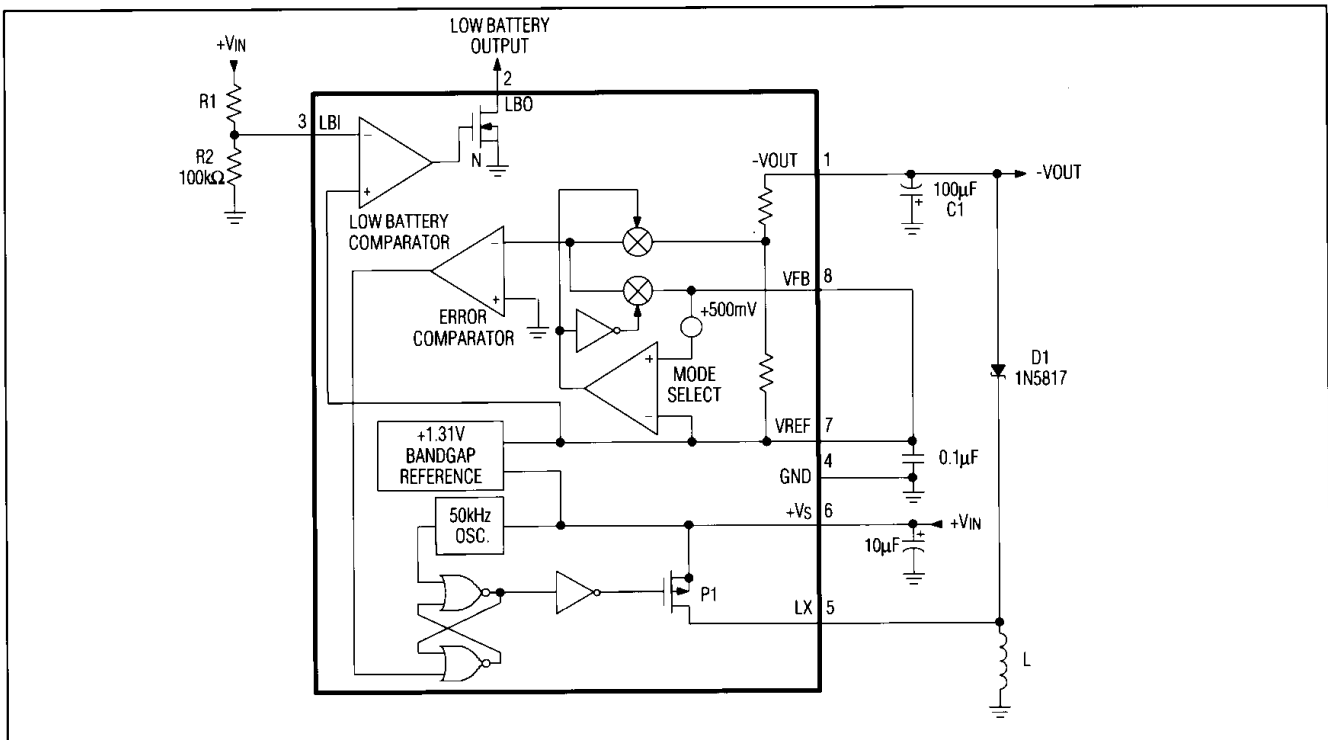

Figure 2. MAX635/636/637 Block Diagram and Typical Circuit (Table 2)
| 1   | -VOUT | The sense INPUT for fixed output operation, -VOUT, is internally connected to the on-chip voltage divider. Although it is connected to the output of the DC-DC converter (Figure 2), VOUT does not supply current, LX does. |
Figure 2 shows the standard circuit for converting a positive voltage into a negative one. When the output becomes more positive than the preset level, the Error Comparator switches low, and the MOSFET at LX is toggled on and off at the clock frequency. During the low-going period of the oscillator, P1 is on, and current is delivered to the external inductor through the LX pin.
Table 1 lists some coil manufacturers and typical part numbers. Table 2 shows nominal inductor parameters for a variety of input and output voltages. The data refers to the circuit of Figure 2. When noise is not critical, a
**Note 4:** Permag Corp. is a distributor for many of the listed core and toroid manufacturers (516) 822-3311.
**Table 2. Inductor Selection for Common Designs (Figure 2)**
The Low Battery Output, LBO, sinks current whenever the input voltage at Low Battery Input, LBI, is less than +1.31V. LBI is a high impedance CMOS input, with less than 10nA leakage current. LBO is an open drain N-channel MOSFET with about 500Ω of output resistance. The trip voltage of the Low Battery Detector can be adjusted using an external voltage divider as shown in Figure 2. If hysteresis is desired, add a resistor between LBO and LBI.